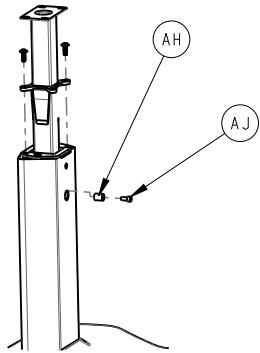

Figure 15 – Column support bracket
8. Using a 3/16" hex wrench, remove the screw (AJ) and spacer (AH) from the lower guide tube (Figure 15). Save the screw and spacer.